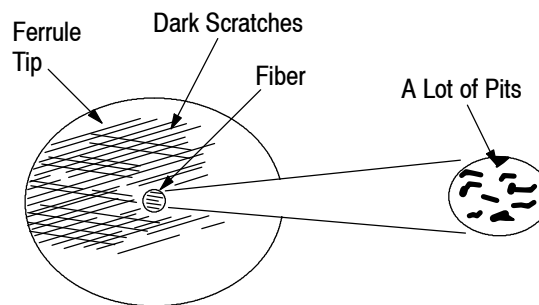

Figure 10
1. Inspect the polished fiber and ferrule (endface) with the microscope. Refer to Figure 10, and check for the following: